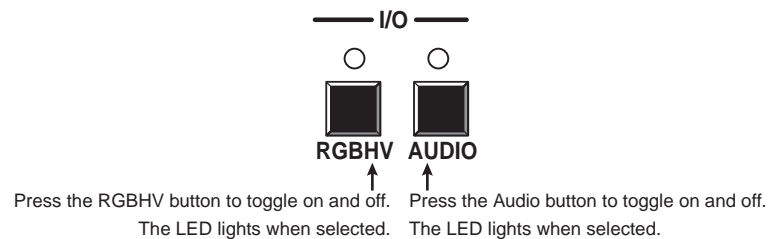

Figure 3-5 — Select RGBHV and audio
2. To select video and audio for the tie, if necessary, press and release the RGBHV button and the Audio button until the LEDs light (figure 3-5).